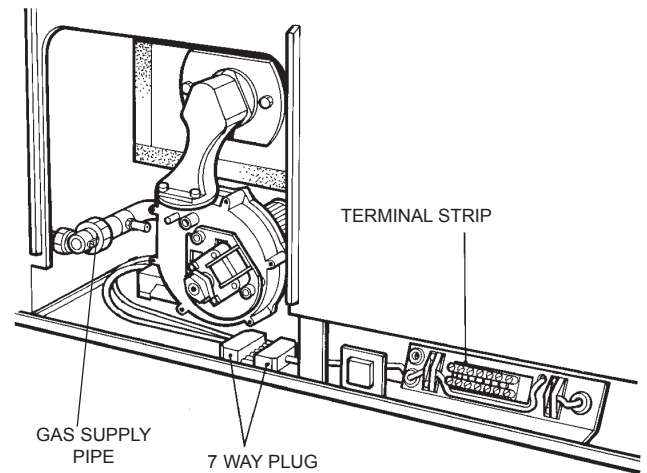

FIG. 15
SEE FIG. 15
4. Disconnect the terminal plug. (See Fig. 15)